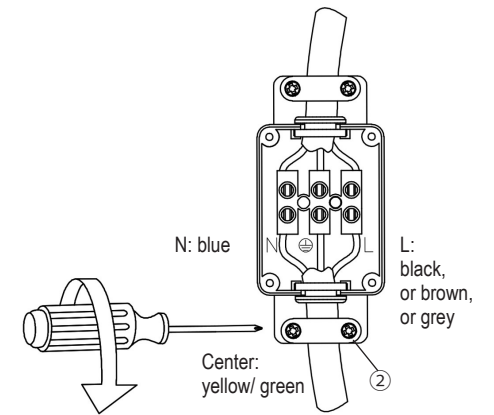

fig. 2
fig. 2: Prepare the cable in accordance with statutory regulations. Loosen the 4 screws of the junction box ①, open the box and connect the wires according to the marks and seal the cable properly. Fasten the strain relief ② with the 2 screws.